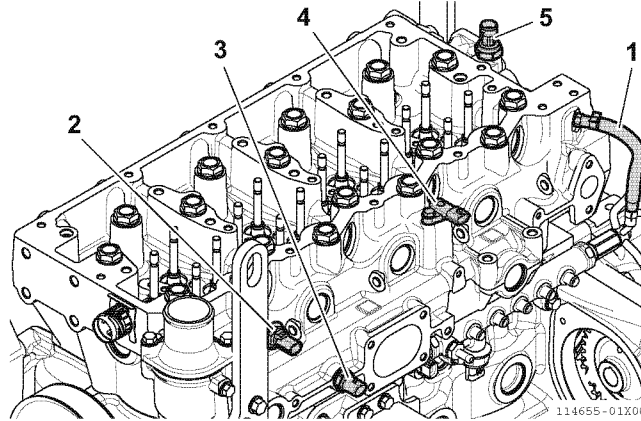

Fig.14-3
1. Remove the fuel return hose (1, Fig.14-3) from the injectors. According to the conditions of cylinder head disassembly and inspection, remove the coolant temperature sensor (2, Fig.14-3), intake temperature sensor (3, Fig.14-3), intake pressure sensor (4, Fig.14-3), and exhaust pressure sensor (5, Fig.14-3).